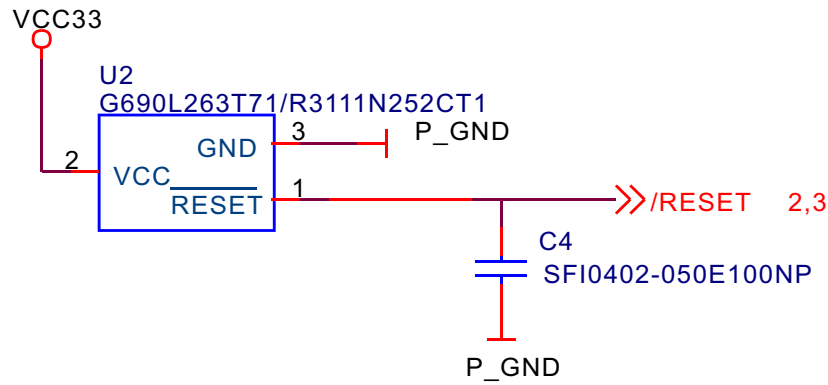

Figure 3.2.10.1 Reset circuit schematic diagram
1. Reset circuit supplies rest signal to PN0101. Reset circuit schematic diagram is shown in the figure 3.2.10.1: